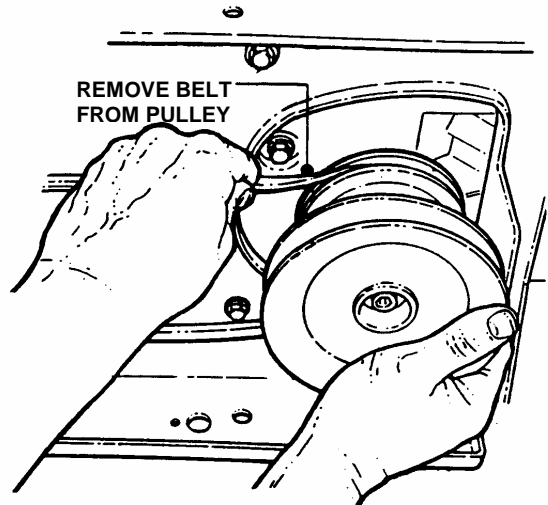

FIGURE 4.28
- Remove traction drive belt from engine pulley top groove. See Figure 4.28.